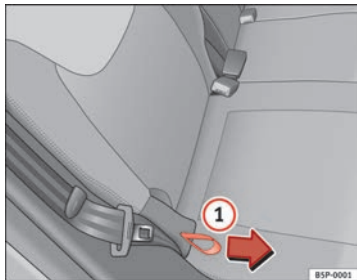

Fig. 97 Rear seat backrest angle adjustment
- Hold the backrest at the top. Pull the loop on the side of the seat ⇒ Fig. 97 ① in the direction of the arrow and hold the loop in this position. Push the backrest to the required position and release the loop.